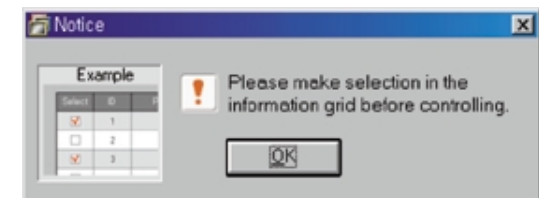

Figure 9-1 Notice Screen
- The dialogue box of Figure 9-1 appears repeatedly.